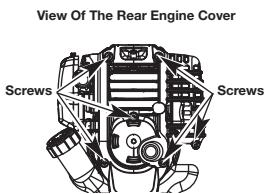

Fig. 44
1. Remove the six (6) screws on the back of the engine cover with a Flat-head or T-25 Torx screwdriver (Fig. 44).
4. Remove the engine cover (Fig. 44).